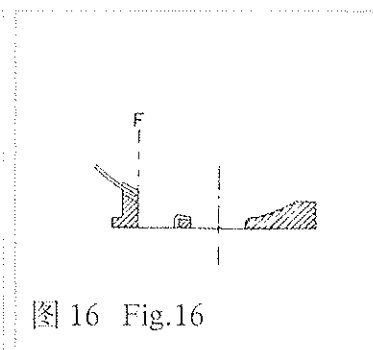

图 16 Fig.16
(3)机针左极限位置 机针的左右位置以左极限为基准, 要求机针在左极限时, 针尖与针板左导槽的右侧面“F”平齐为机针的标准基准位置(图16)。
Left limit shall be taken as a frame of reference. When the needle is at the left limit, needle point shall be flush with the right side "F" of the left needle guide groove of needle plate (Fig.16).